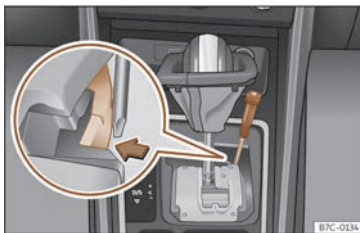

Fig. 95 Selector lever: manual release from position P.
• Using the flat part of a screwdriver, press the yellow tab sideways and keep it pressed down >>> **Fig. 95.**